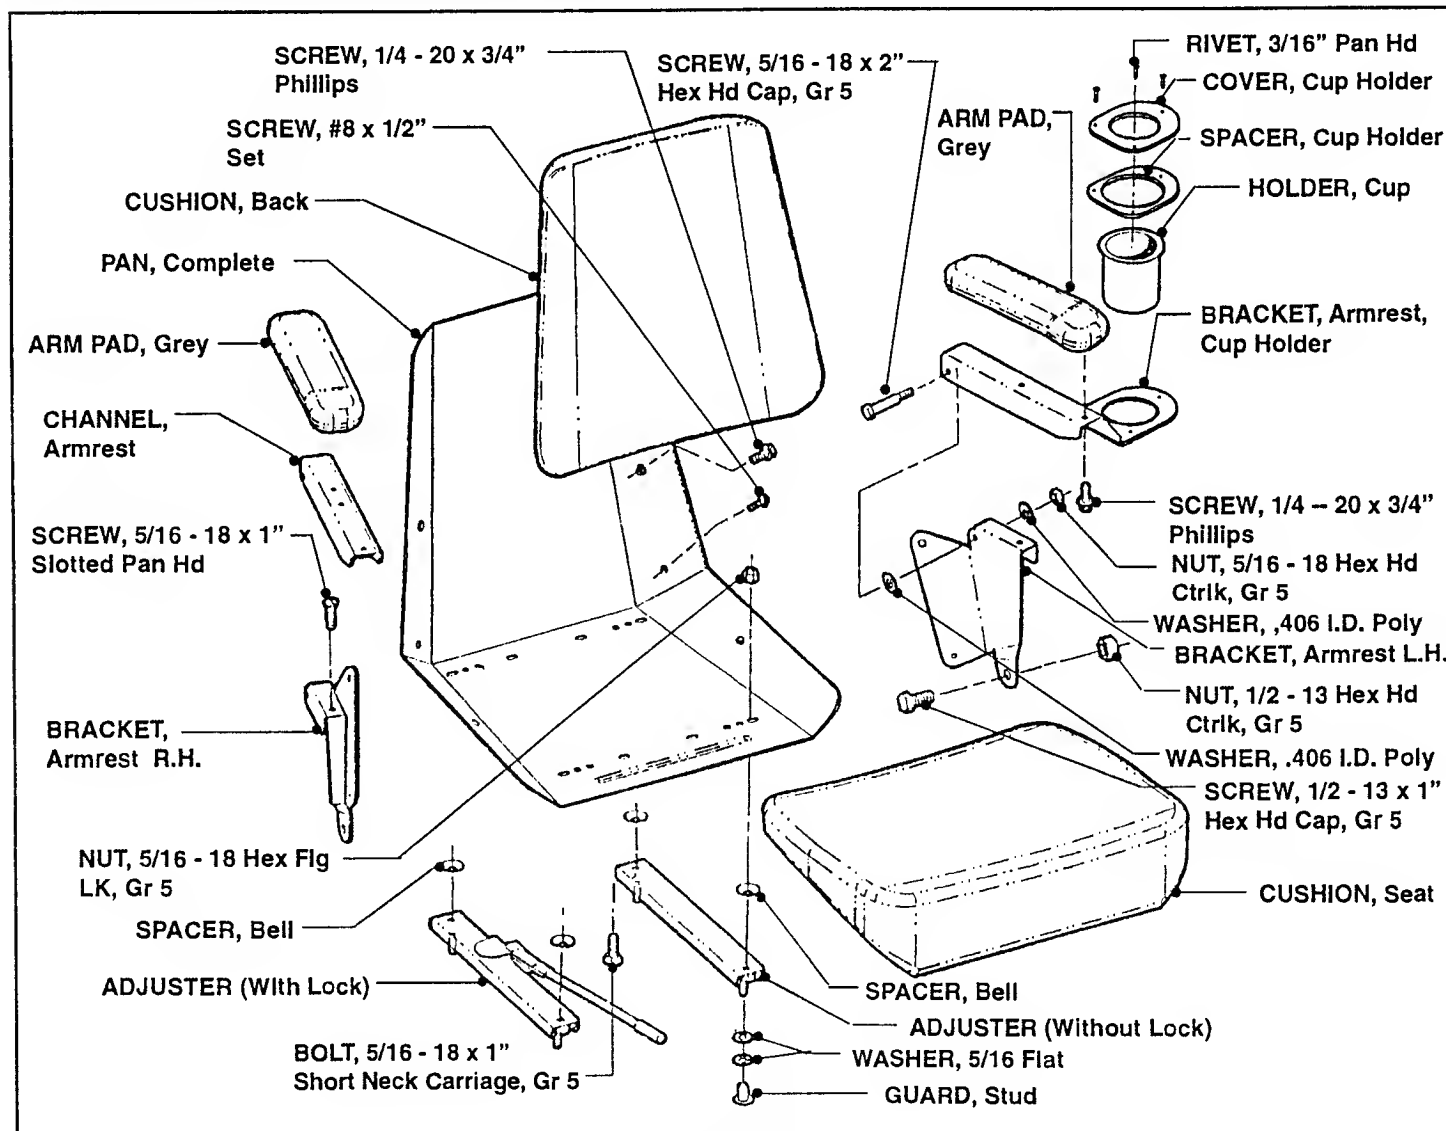
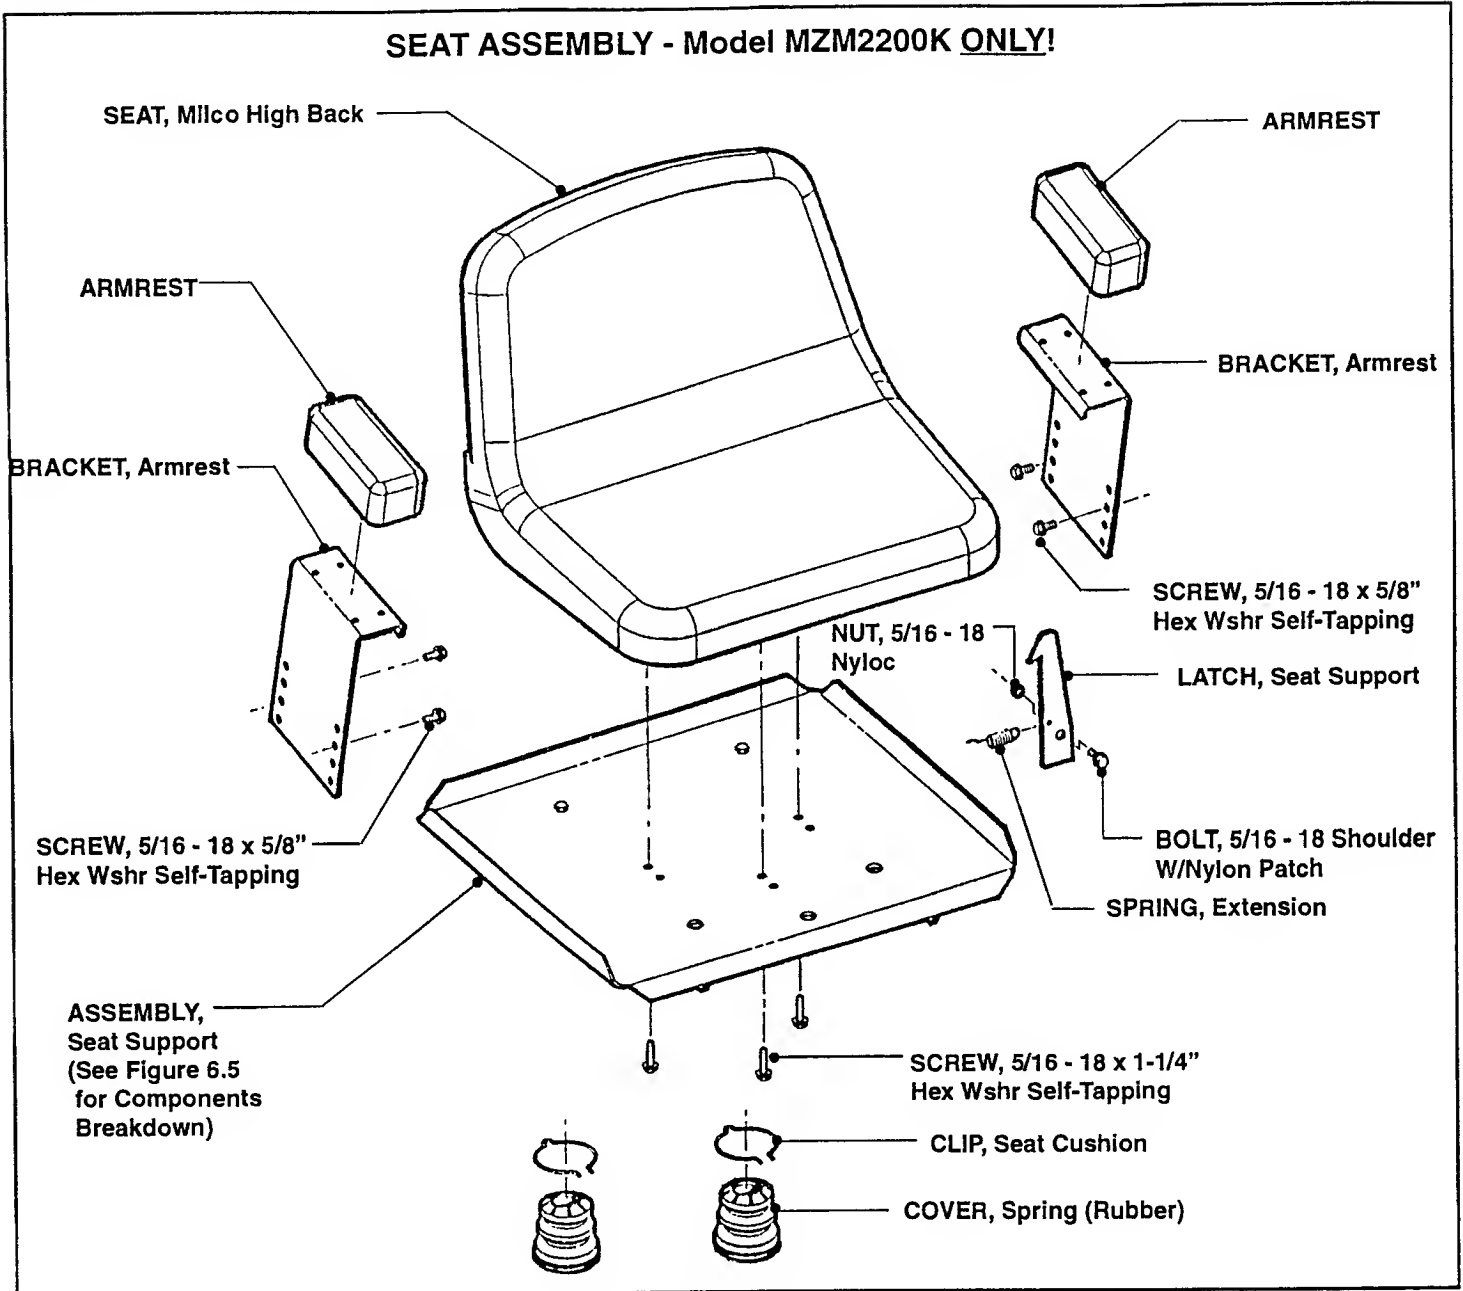

FIGURE 6.3
FIGURE 6.4
Shown below in Figure 6.3 are the Seat Assembly Components for all models of the Mid Mount Z-Rider except Model MZM2200K. (They are shown in Figure 6.4 on Page 6.5).
4. Remove the assembled Seat and Seat Support from Unit (refer to Figures 6.3, 6.4 & 6.5).
Figures 6.3, 6.4 & 6.5 show all components of the Seat & Seat Support Assemblies. Replacement of any parts is a straightforward Removal/Installation operation. Consult the Parts Manual for required part numbers.